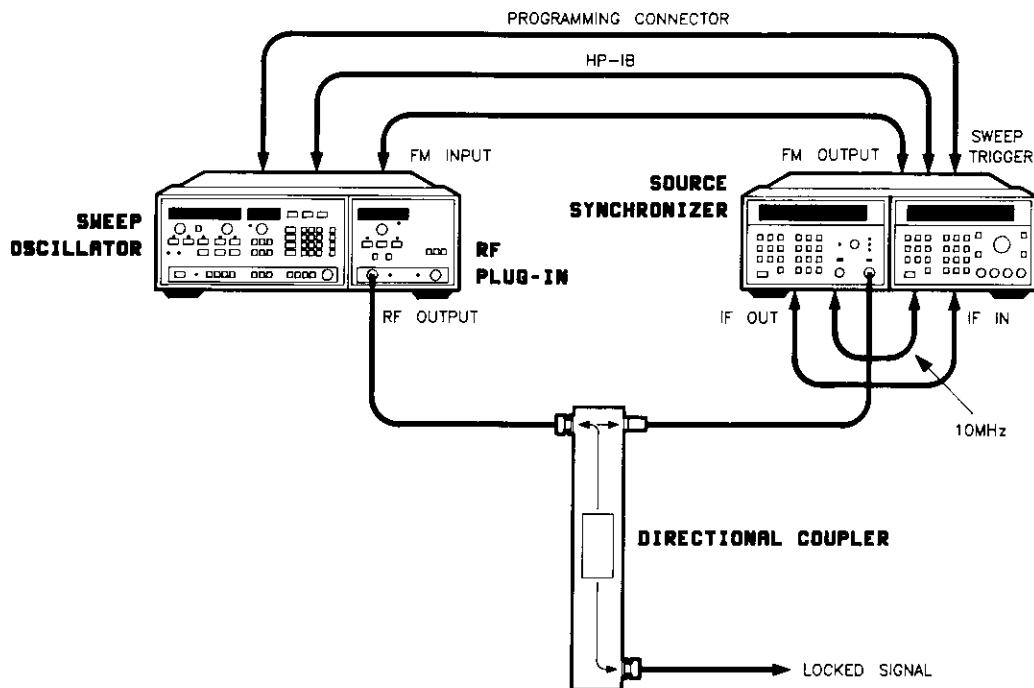

Figure 3-11. Phase-Locking Using the HP 5344S Microwave Source Synchronizer
2. Connect the equipment as shown in Figure 3-11. Turn the instruments on and let them warm up for at least one hour.